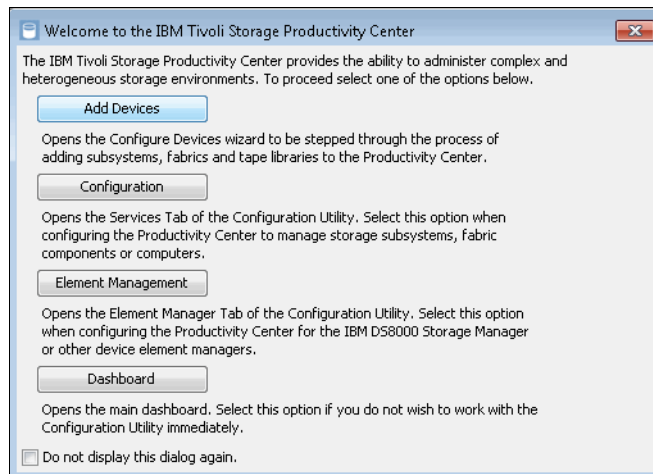

Figure 9-32 Add Devices window
3. After successfully logging in, you are ready to add storage devices to Tivoli Storage Productivity Center, as shown in Figure 9-32.